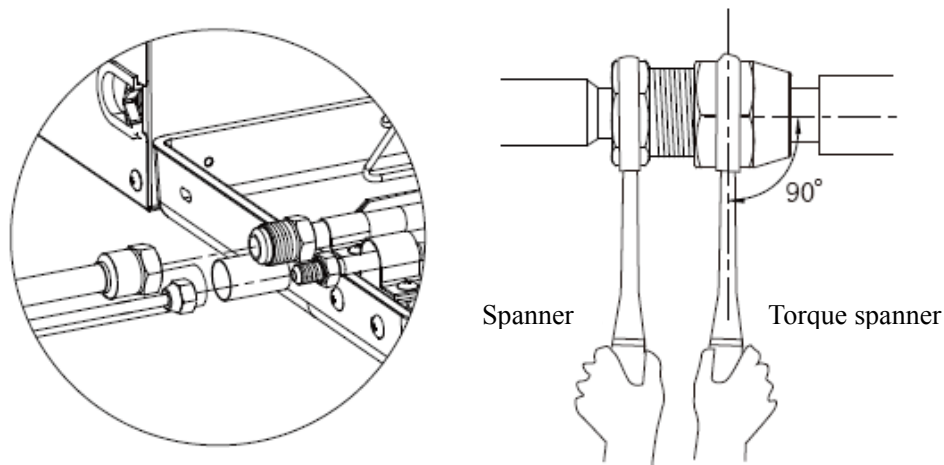

Fig.9 Installation of fitting pipe
- (4) Please use a torque wrench to connect union nut on the indoor unit. See Fig.9.